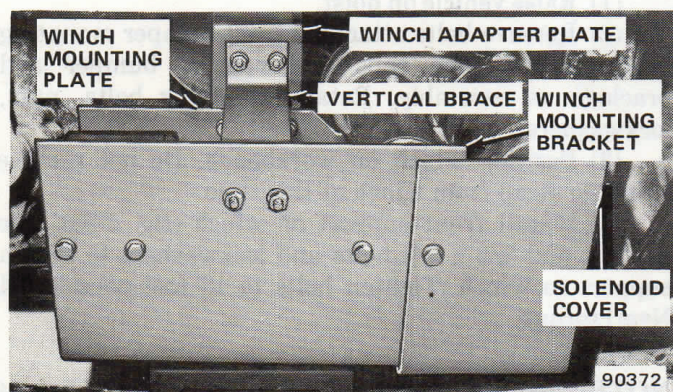

Fig. 5-18 Attaching Vertical Brace to Adapter Plate
(17) Align bolt holes in vertical brace with holes in winch adapter plate (fig. 5-18). Attach brace to adapter using 3/8 x 1 bolts, lockwashers and nuts. Tighten bolts to 18 foot-pounds (24 N•m) torque.